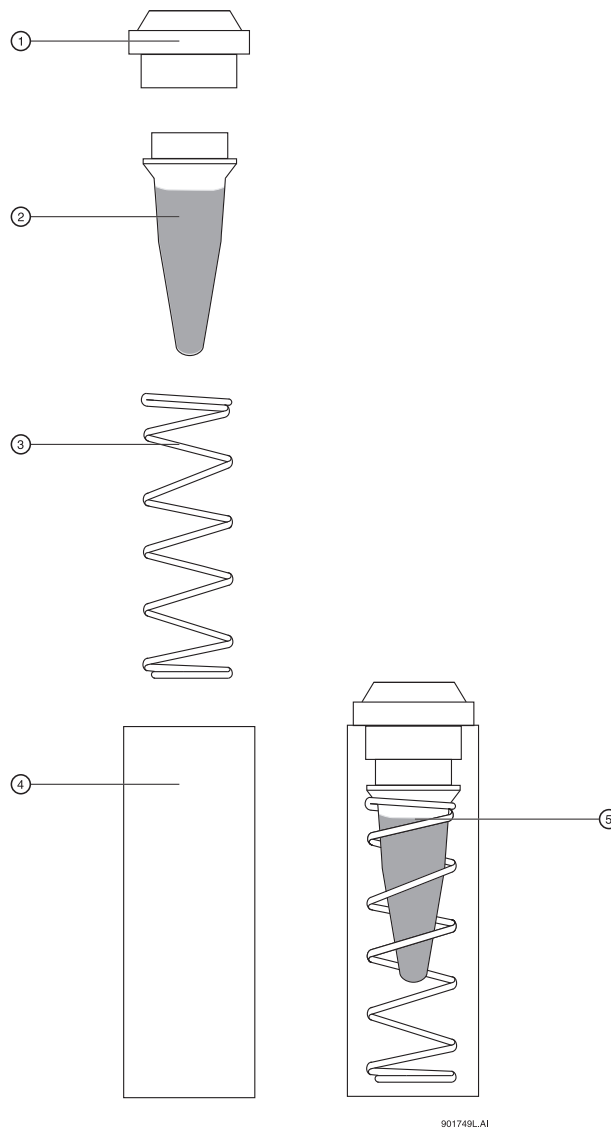

Figure 4.18 Filling PCR Vials
1. Referring to Figure 4.18, fill the vial with at least 5 μ L of degassed sample. Be sure to dislodge any bubbles that may form at the bottom of the vials.